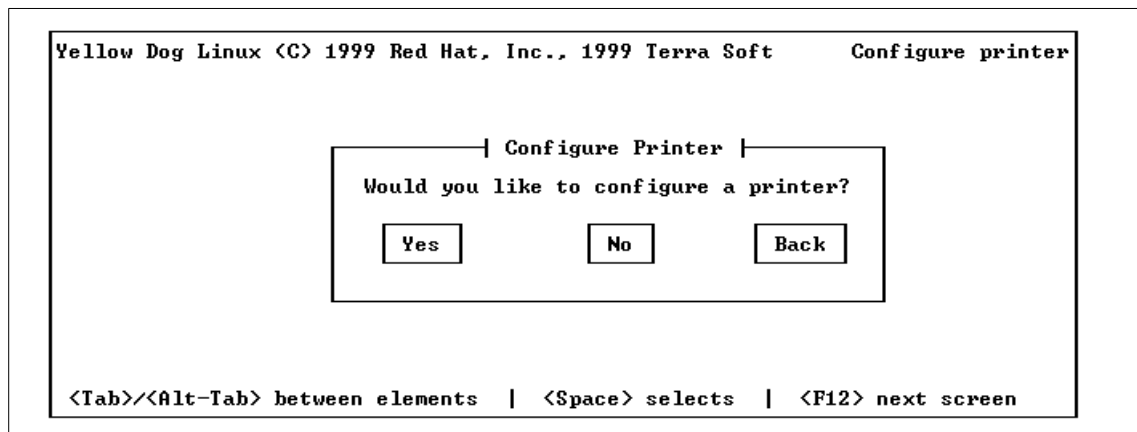

Figure 46. Printer Configuration
23. If you have a printer, you can set printer parameters as shown in Figure 46.